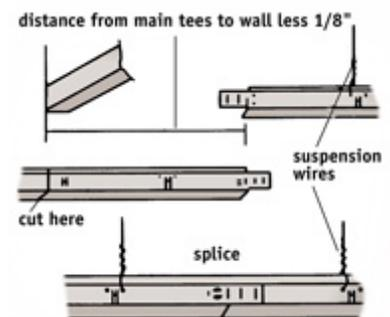

Figure 14 Main tees can be spliced for rooms wider than 12'
f) For rooms wider than 12', the main tee can be spliced (Fig. 14). Be sure to align the splice so that the suspension wires are correctly positioned. Splice carefully, or all the main tees will be thrown off.